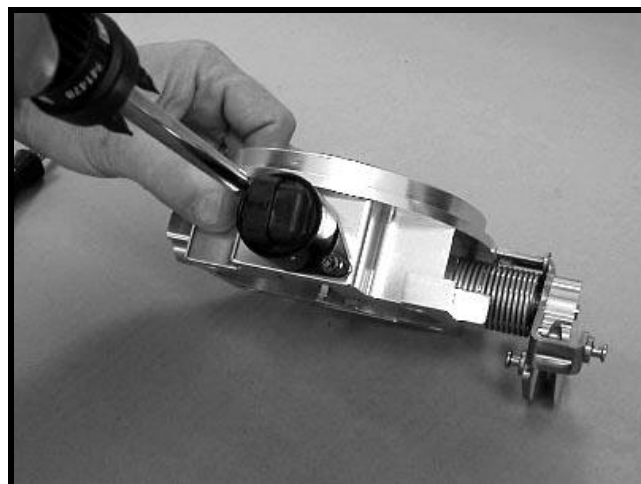

Figure 5
10. Reconnect the idle air control (IAC) motor to the throttle body (Figure 5).